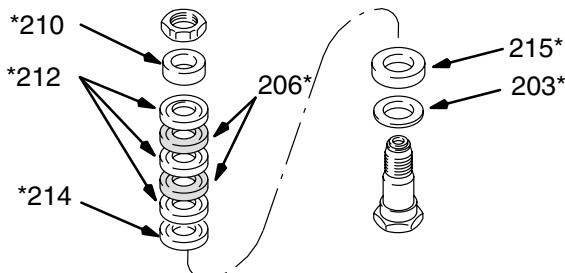

Fig. 23 02566
- Clean the piston valve threads. One at a time, stack the backup washer (203*), seal (215*) (with lips facing down), and female gland (214*) on the piston. Alternately stack the polyethylene (212*) and leather (206*) packings (lips facing up) on the piston. Then install the male gland (210*). See Fig. 23.